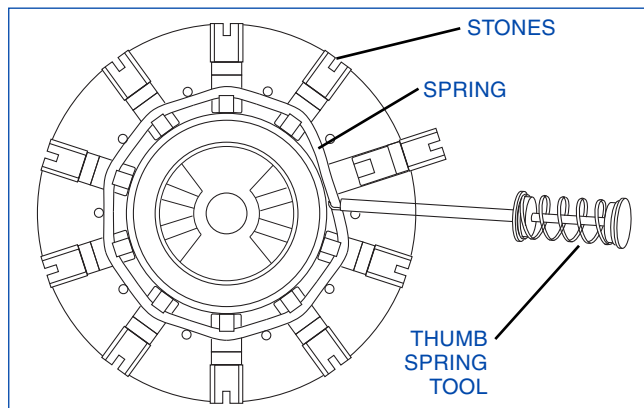

FIGURE 2-14, Install Holders
2. It is easiest to put grouping of stone/brush sets into head at a time, working in a counterclockwise direction, looking down from universal joint (*see Figure 2-14*).
- Grab spring on bottom of hone head, in between mounting clips, and pull it over spring slots in bottom of stone/brush set, using GH-50 Thumb Spring Tool (*refer to Figure 2-14*). Repeat for second set.
When removing stone/brush sets, always remove in sets. To remove and/or replace stone/brush sets, proceed as follows (*refer to Figure 2-14*):